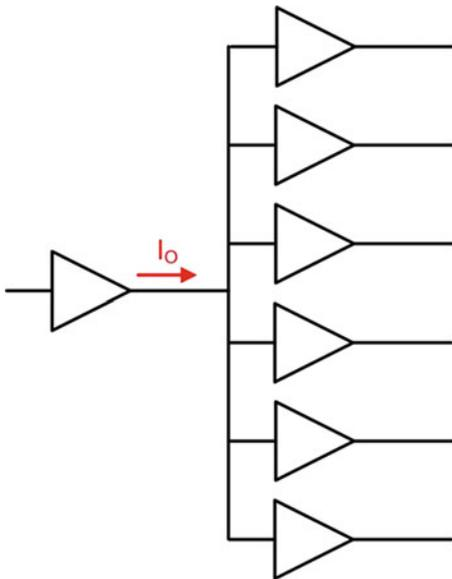

Fig. 3.39
3.4.1 In the driver configuration shown in Fig. 3.39, the buffer is driving its maximum fan-out specification of 6. The maximum input current for this logic family is $I_i = 1 \text{ nA}$. What is the maximum output current (I_o) that the driver will need to source?
- 3.4.2 In the driver configuration shown in Fig. 3.39, the buffer is driving its maximum fan-out specification of 6. The maximum input current for this logic family is $I_i = 4 \text{ nA}$. What is the maximum output current (I_o) that the driver will need to source?